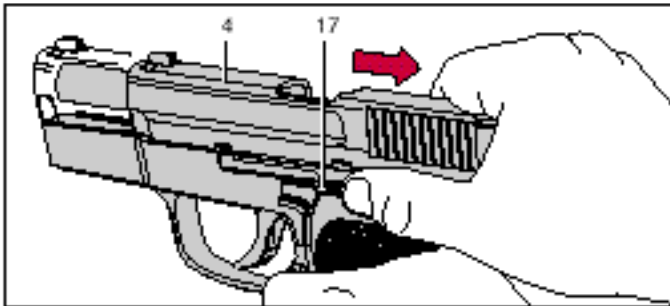

Fig. 8
2. Draw back slide 4 to the stop and arrest it in the open position by thumbing up slide catch lever 17 (Fig. 8).